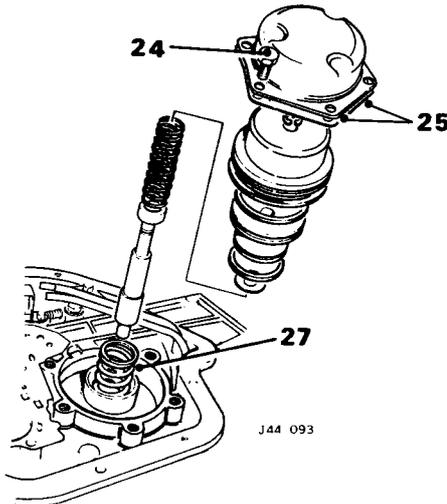

Fig. 12
24. Remove the rear servo cover retaining bolts (Fig. 12).
25. Remove the cover and gasket (Fig. 12). Discard the gasket.
27. Remove the rear servo accumulator spring (Fig. 12).